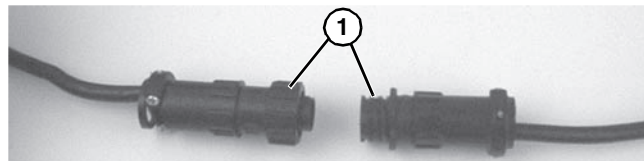

Figure 19
3. For DC variable speed motor, unplug motor cord at disconnect (**Figure 19, item 1**).